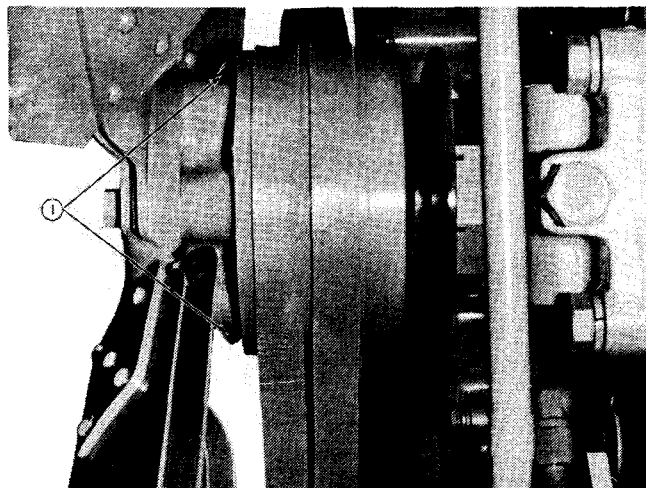

Fig. 2-42, (N21935). Fan hub lubricating point
1. Remove pipe plugs, install grease fitting (1, Fig. 2-42) in fan hub. Give one "shot" (approx. 1 tablespoon) each second "C" Check.